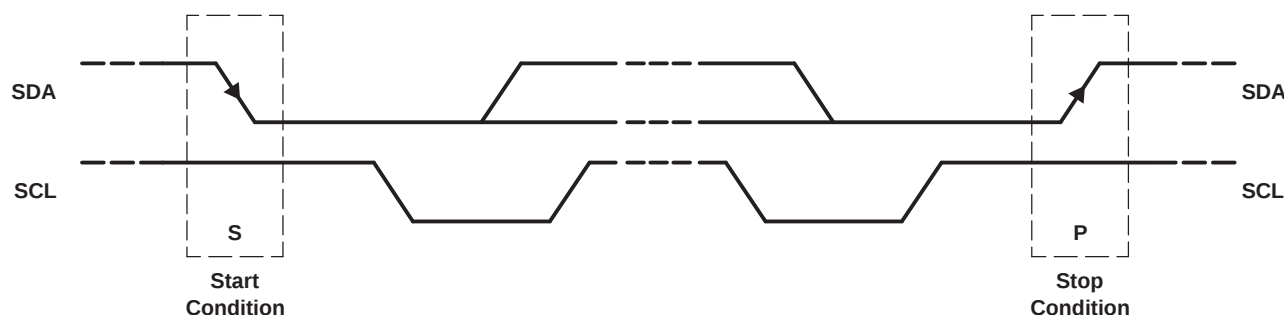

Figure 41. START and STOP Conditions
- The *Master* initiates data transfer by establishing a *Start* condition. The *Start* condition is defined when a high-to-low transition occurs on the SDA line while SCL is high, as shown in Figure 41. The byte following the start condition is the address byte consisting of the 7-bit slave address followed by the W bit.